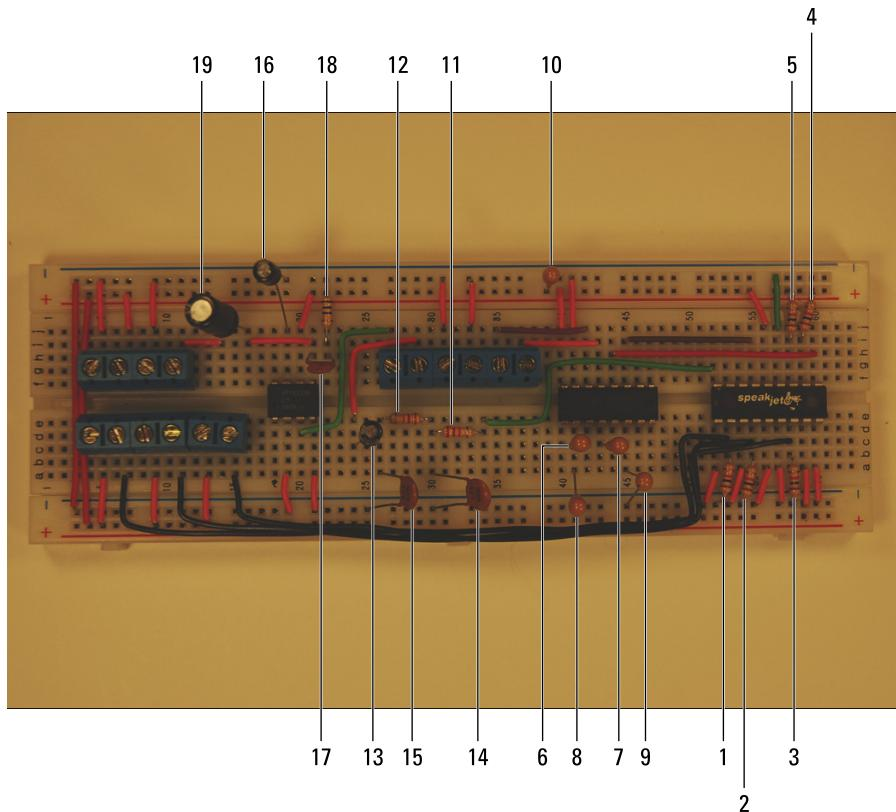

Figure 4-9:
5. Insert discrete components on the breadboard, as shown in Figure 4-9.
When inserting electrolytic or tantalum capacitors, be sure to check the schematic in the earlier Figure 4-2 to see where to insert the longer, positive (+) lead. The components shown in Figure 4-9 and indicated by the numbered callout comprise the following: